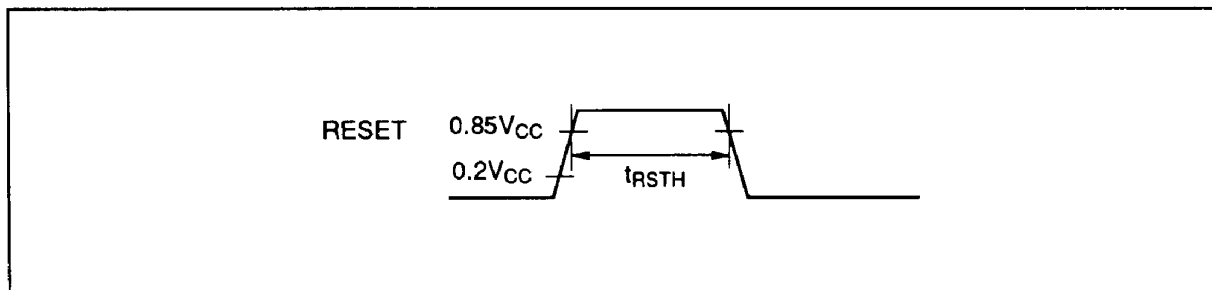

Figure 72 Reset Timing
5. Refer to figure 72. The MCU will malfunction if noise conflicts with the falling edge of the RESET signal when releasing from reset state. The reset circuit must be sufficiently evaluated in the application system.